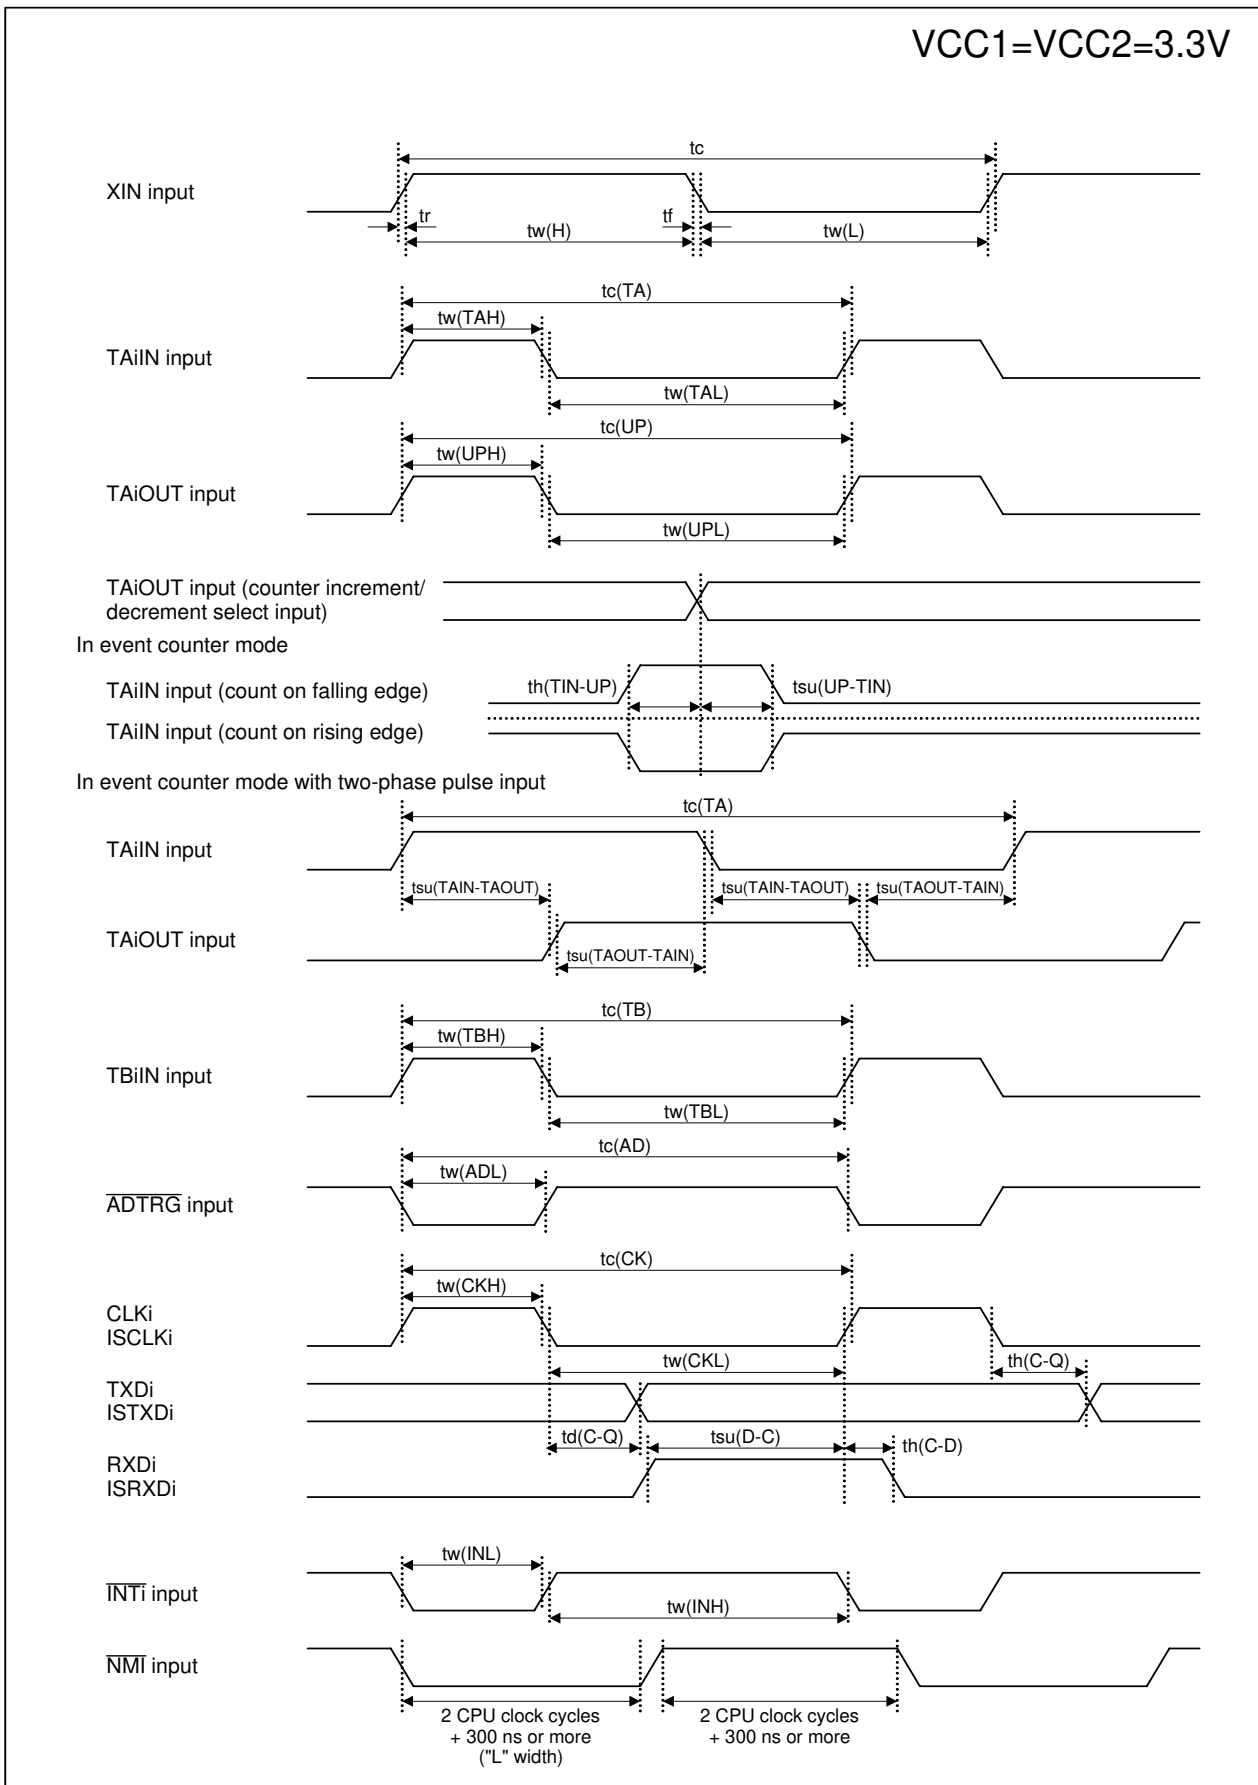

Figure 5.7 VCC1 = VCC2 = 3.3 V Timing Diagram (1/4)
71	• Figure 5.7 $V_{cc1}=V_{cc2}=3.3V$ Timing Diagram (1) $th(BCLK-AD)$, $th(BCLK-CS)$ and $th(BCLK-RD)$ values modified; $tac1(AD-DB)$ expression on note 2 modified; $th(WR-DB)$, $th(WR-AD)$ and $tw(WR)$ expression on note 3 modified; $tcyc$ expression added